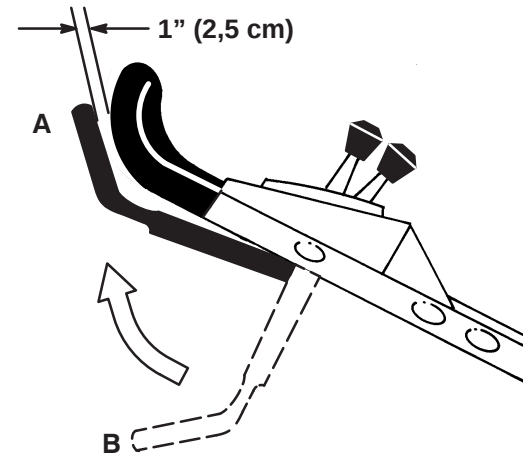

Figure 12
9. Lift control bar to the normal blade engaged position (about one inch below the handle) [Refer to position A in Fig. 12]. The fan-like noise indicates that the lawn mower blade is turning.